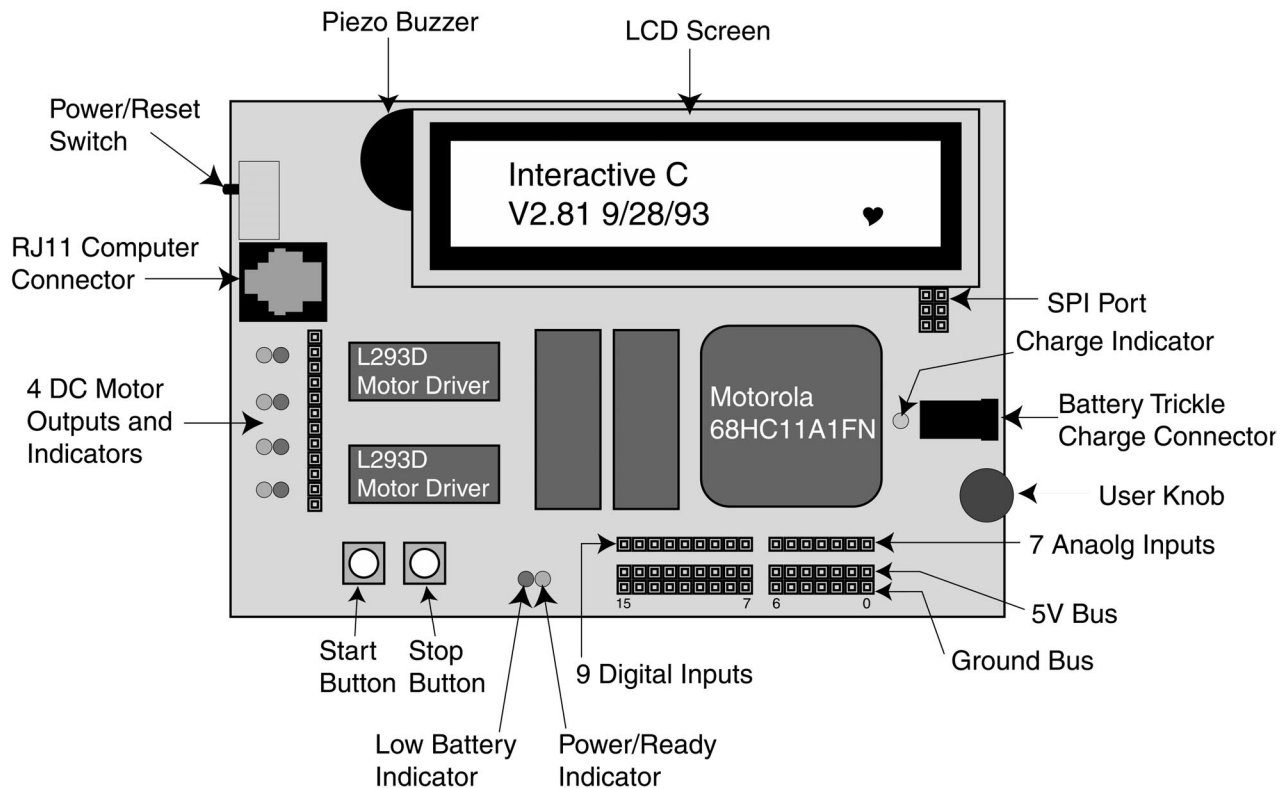

Figure 1: A labeled diagram of the Handy Board's major features.
The Handy Board is a small single board computer developed by Fred Martin of the MIT Media Laboratories. The main features of the Handy Board are a Motorola 68HC11 microprocessor chip, four DC motor outputs, seven 8-bit analog inputs, nine digital inputs, a 16x2 character LCD screen, and an internal 9.6 Volt NiCad battery pack. The Handy Board is programmed using Interactive C, a C programming language, developed by Randy Sargent of MIT. A diagram of the Handy Board depicting its main features is shown below in Figure 1. The following sections describe some of the basic steps needed to prepare the Handy Board for programming and the more useful pre-programmed functions of the Handy Board. More detailed information about the capabilities of the Handy Board and its programming interface can be found at the Handy Board web site (<http://handyboard.com>) and on the mechatronics class webpage under project handouts. The *Handy Board Technical Reference* and the *Interactive C for the Handy Board Manual* in the Docs section are of particular value for understanding the Handy Board and using it robotic control applications.
- a. Connecting one end of the RJ11 modular cable into the computer connector port on the Handy Board (see Figure 1) and the other end into the Serial Interface & Battery Charger Board.
3. Turn on the Handy Board using the Power/Reset Switch (see Figure 1).
Turns on motor port *m* at power level *p*. There are four motor ports on the Handy Board, labeled Motor-0, Motor-1, Motor-2, Motor-3 (see Figures 1 and 3 for location). The power level ranges from 100 for full forward to –100 for full reverse. Although the range of power levels goes from –100 to 100 in increments of 1, there are actually only 15 motor speeds (See Table 2 below).
Refer to Figure 1 for the location of the analog and digital ports. Note that these ports are the top of the three strips in that area, and are numbered from right to left. The bottom strip is ground, and the middle strip is a +5 volt supply voltage that can be used to power sensors. The top strip is for the sensor signal (this is the value that will be read by the **analog** and **digital** functions). All the analog input ports are connected to the five-volt bus through an internal 47-k Ω pull-up resistor. This internal resistor can change the behavior of some sensors. Specifically, a voltage divider is created when one lead of an analog sensor is inserted into an analog input and the other into ground (refer to Lab 3 for a description of a voltage divider). The voltage across the internal pull-up resistor is the voltage read by the eight-bit ADC of the Handy Board.
This function returns the position of the user knob (see Figure 1) as a value between 0 and 255. The knob is a potentiometer whose wiper is connected to an 8-bit analog-to-digital converter. This potentiometer divides the voltage between the five-volt bus and ground.
This function returns the value of the button labeled "Start" (see Figure 1): 1 if pressed and 0 if released.
This function returns the value of the button labeled "Stop" (see Figure 1): 1 if pressed and 0 if released.